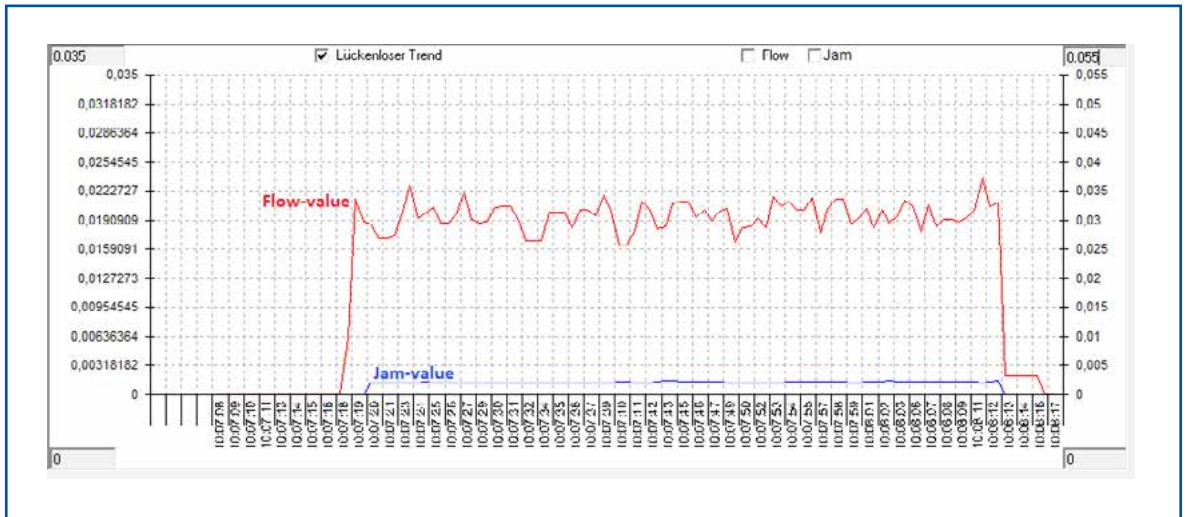

Fig. 13: Flow trend - without plugging
- If possible, create now a blockage and let the pipe fill up with material. This blockage should be visible in the trends, similar like in figure 13. Unlike the previous trend in figure 12, at the end, the “Jam value” should rise vice versa to the “Flow value”. If a forced blockage is not acceptable, you can skip this point, and the FlowJam Plus will use the factory defaults.
- The parameters for the flow and jam limits are stored in the tab **Flow**. Out of the recorded sensor signals, the needed parameter could be evaluated and stored in this tab. It should be noted that the sensor only calculates and outputs a jam value until it falls below the flow limit. An example of the correct choice of limits is shown in figure 13. It could be lead to small deviations when reading back the sensor parameters, because of rounded values on sensor side.